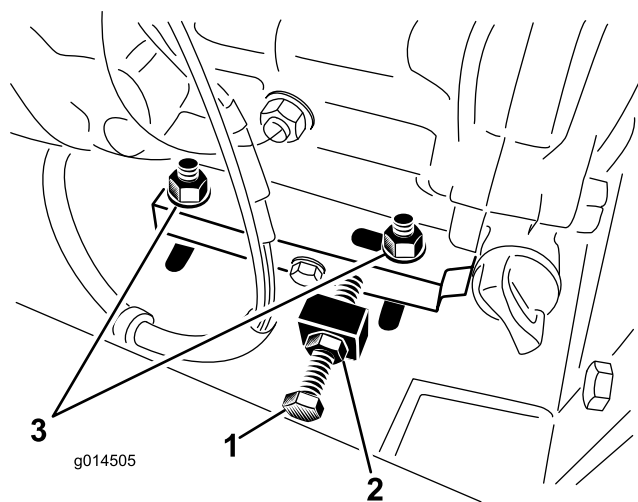

Figure 21
2. Loosen the 4 engine mounting bolts, and jam nuts holding the adjustment bolt (Figure 21).